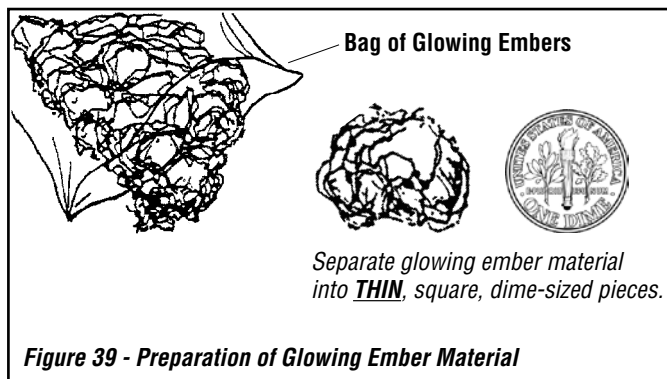

Figure 39 - Preparation of Glowing Ember Material
- a) Separate some of the glowing ember material into pieces **about the size and thickness of a dime** (see **Figure 39**). Keep the pieces fluffed up, not matted.